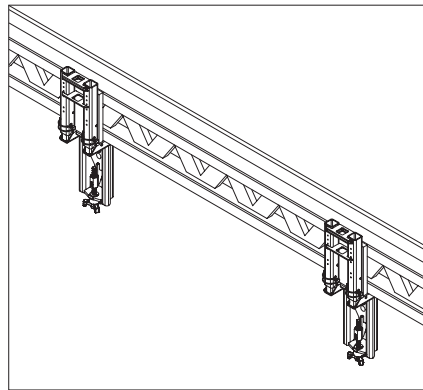
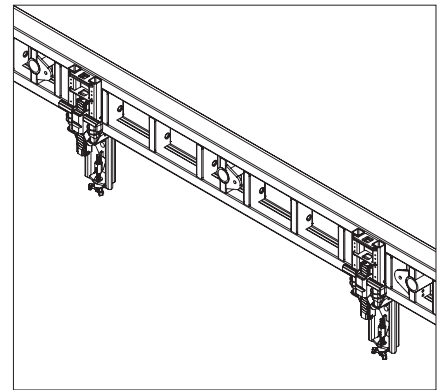

Fig. A2.13
Fig. A2.14
- Without anti-fall protection. (Fig. A2.13 + Fig. A2.14)